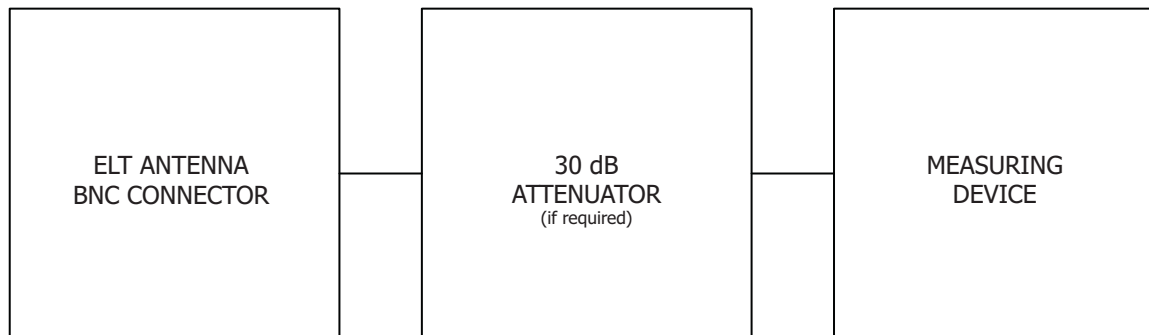

Figure 8 Performance Testing Equipment Setup
- (1) Place the ELT in a container or screen room capable of substantially attenuating RF signals, or the transmitter power output shall be connected to a suitable dummy load to minimize radiation.
- (2) Use the ELT's own battery pack as the power source for these measurements. An alternate power source can be used where lengthy servicing, other than the performance tests, is anticipated.
- (3) Ensure that adequate attenuation rated for 406 MHz is installed between the ELT antenna output and the measurement equipment to prevent damaging input circuitry, if required. At a minimum, the attenuator should be rated at 30 dB, and 5 watts for a 1/2-second duration. As shown in Figure 8 Performance Testing Equipment Setup.